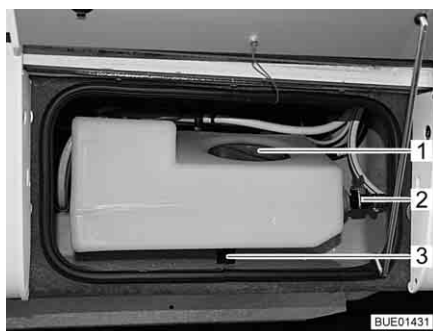
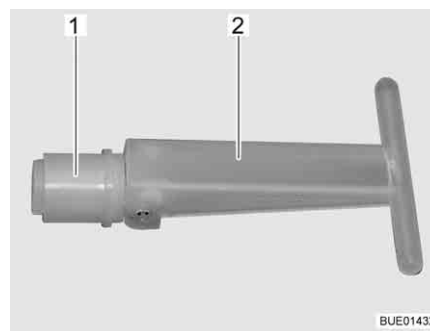

Fig. 197 Auxiliary water tank
Fig. 198 Stopper
When the emptying valve (Fig. 197,2) is open, the fill quantity of the auxiliary water tank is limited to approximately 30 litres; excess water will drain off. When the emptying valve is shut, the entire tank volume is available.
When the stopper (Fig. 198,1) is pulled in the inside of the auxiliary water tank, the water drains away via the drain (Fig. 197,3). The stopper can be accessed via the service opening (Fig. 197,1).
- Ensure that the stopper (Fig. 198,1) in the auxiliary water tank is shut (handle (Fig. 198,2) is folded out).
- Ensure that the emptying valve (Fig. 197,2) is shut.
- Open the service opening (Fig. 197,1) in the auxiliary water tank.
- Access the handle (Fig. 198,2) of the stopper (Fig. 198,1) via the service opening, turn the handle to the vertical position and remove the stopper.
- Open the emptying valve (Fig. 197,2) on the auxiliary water tank.